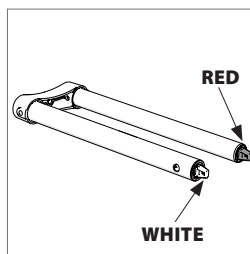

Fig. 1b
- The Carriage Slides. **(Fig. 1b)**